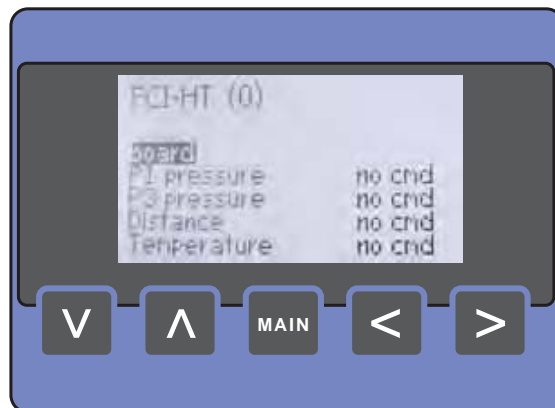

FIGURE 4-11
- The [function list] screen (see FIGURE 4-11) shows all *available functions* of the previously selected board. You can navigate through the function list by using the up and down buttons. You can return to the [board list] screen by pressing the left button. A function can be selected by simultaneously pressing the left + right button. If a FlexConn module does *not* contain any function commands, this will be indicated in the list (<no cmd>).